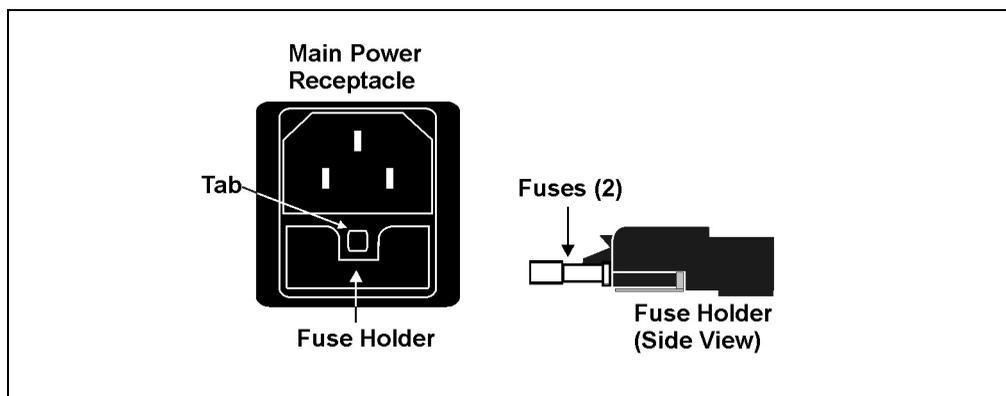

Figure 5-27. Main Power Fuse Holder
2. The fuse holder is part of the main power receptacle (see Figure 5-27) on the ICS-1500 rear panel. To remove the fuse holder, squeeze the tab on the top of the holder to release it and pull the holder straight out of its compartment.